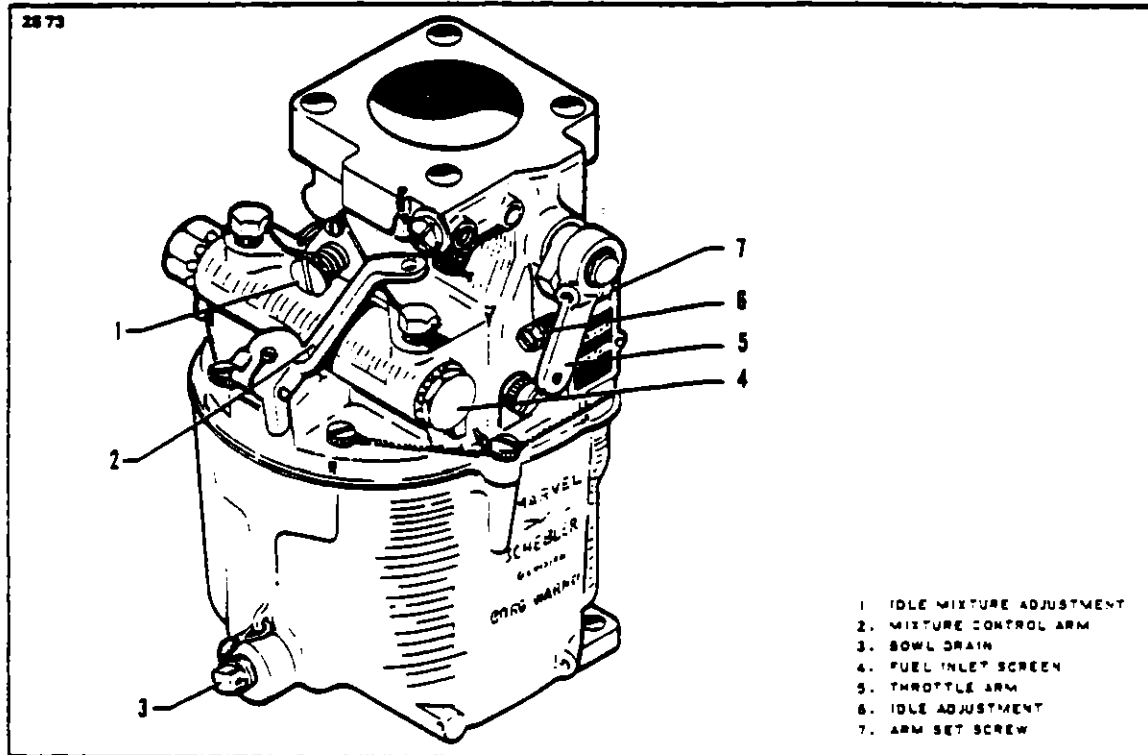

FIGURE 7A-10. CARBURETOR
- d. Clean the fuel inlet screen (Refer to Figure 7A-10 )